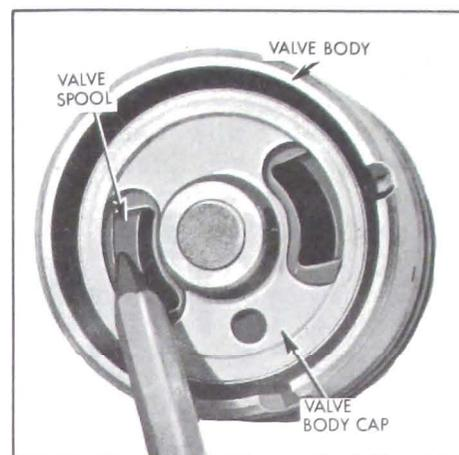
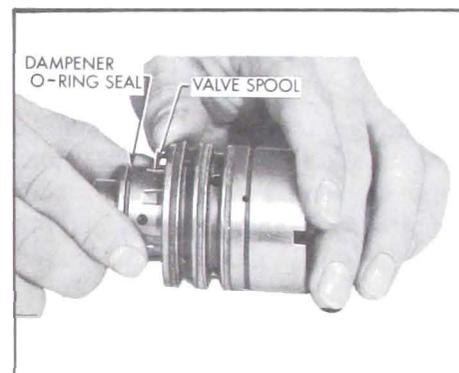

Figure 8-40—Separating Valve Spool From Valve Body
Figure 8-41—Withdrawing Valve From Valve Body
3. Remove the valve spool by holding the valve assembly in one hand with the stub shaft pointing downward. Insert the end of a pencil or wood rod through the opening in the valve body cap and lightly push on the valve spool until it is far enough out of the valve body to be withdrawn. See Figure 8-40. Withdraw the spool with a steady rotating pull to prevent jamming. See Figure 8-41. If slight sticking occurs, make a gentle attempt to reverse the withdrawal procedure. If this does not free spool, it has become cocked in the valve body bore. Do not attempt to force the spool in or out if it becomes cocked, but continue with the following step.